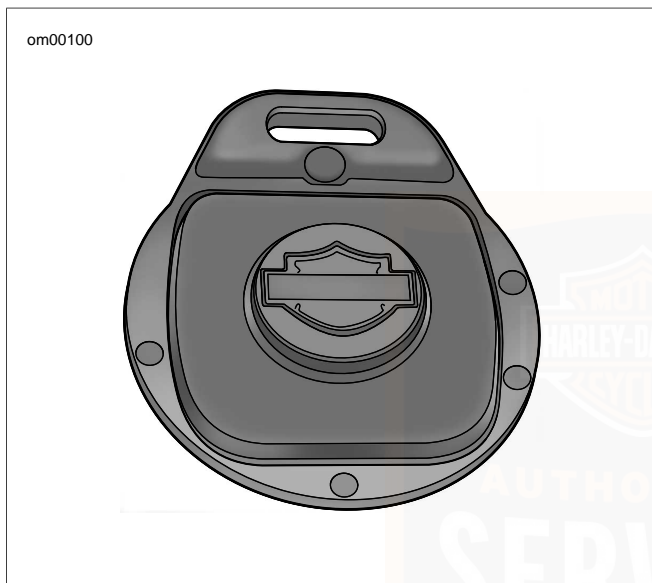

Figure 26. Key Fob Open Case: Front
1. See Figure 26. Place a thin blade between the 2 halves of the key fob case and slowly turn to open.